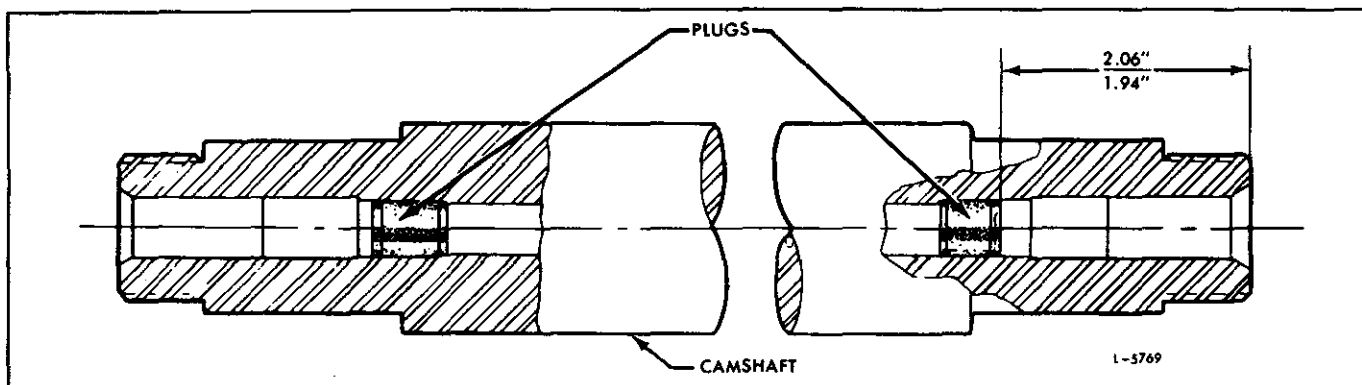

Fig. 11 – Camshaft Plug Installation
- Install new end plugs in the camshaft. Press the plugs in to a depth of 1.940" to 2.060" (Fig. 11).